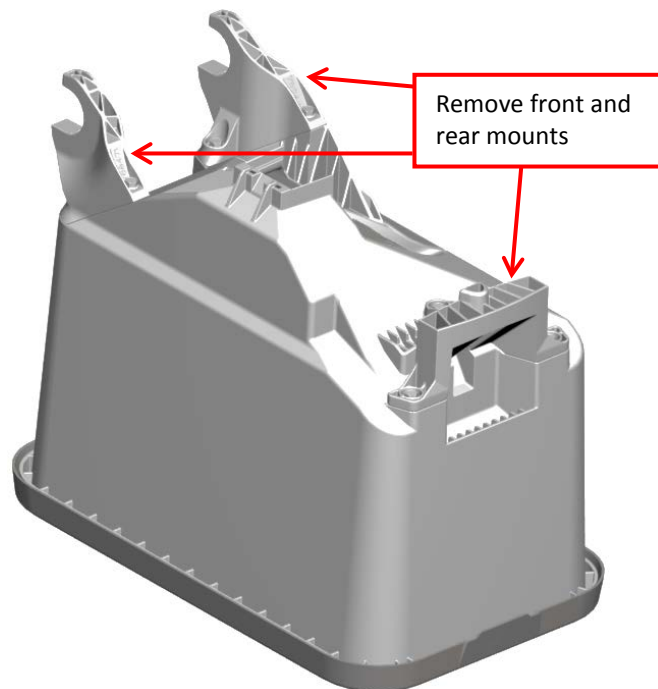

Figure 1 –Existing Hopper Mount Removal
- a) Remove the existing front and rear hopper mounts. Refer to figure 1.